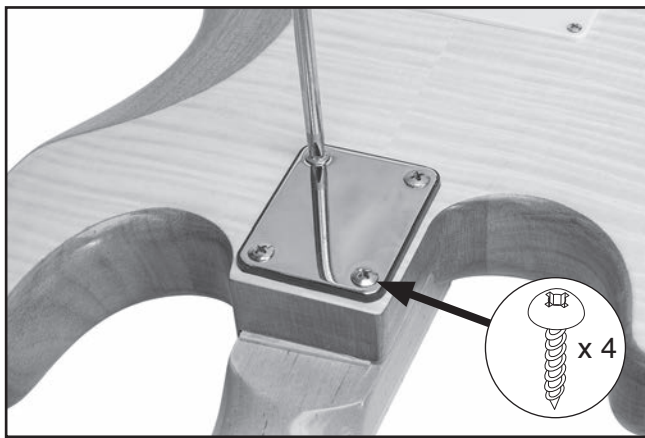

Figure 9. Mounting neck to body.
12. Secure neck with (4) M5 x 45 Phillips head screws (see **Figure 9**).